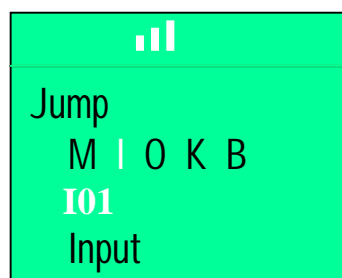

Fig. 2.14
-Jump (figure 2.14) : Use this option to arrive at a particular block. Internal bits (**M :SystemBit M01~M05**), inputs (**I :Input I01~I04 or I06 or I12**), outputs (**O :Output O01~O02 or O04 or O08**), front panel keys (**K :Key K01~K08**), and blocks (**B :Blocks created by the user**) can be accessed by the ◀ and ▶ keys. Keys 2 (+) and 3 (-) select a block for each category. Access to the block is confirmed with **OK**, **ESC** returns to the main menu.